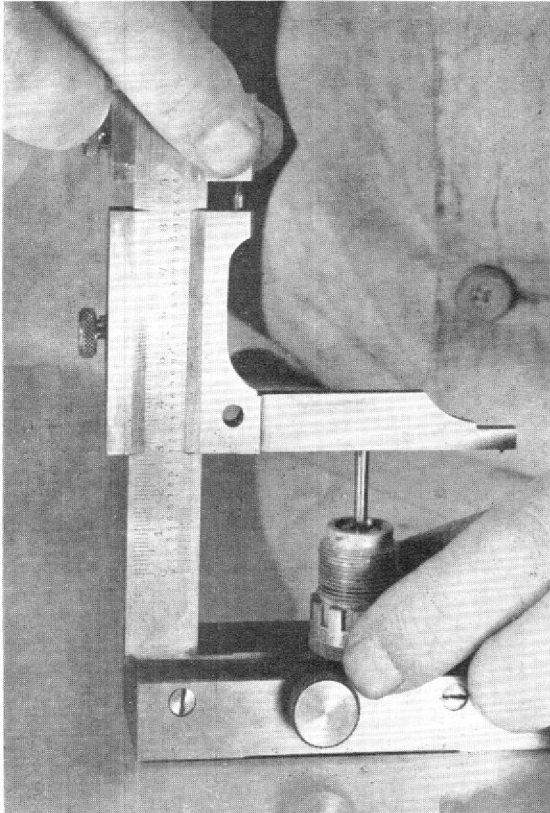

Fig. 8. Checking movement under control of resistance spring; using a vernier height gauge.
- (b) Having ascertained that there is *no* free movement of the metering piston (13) the movement *under control of the resistance spring* (5) should now be checked by a micrometer height gauge alongside the protruding metering piston (13) and depressing the latter until the definite stop due to the piston (13) contacting the cap (4) is felt. This movement should be 0.025 in. $\pm$ 0.003 in. (Fig. 8).